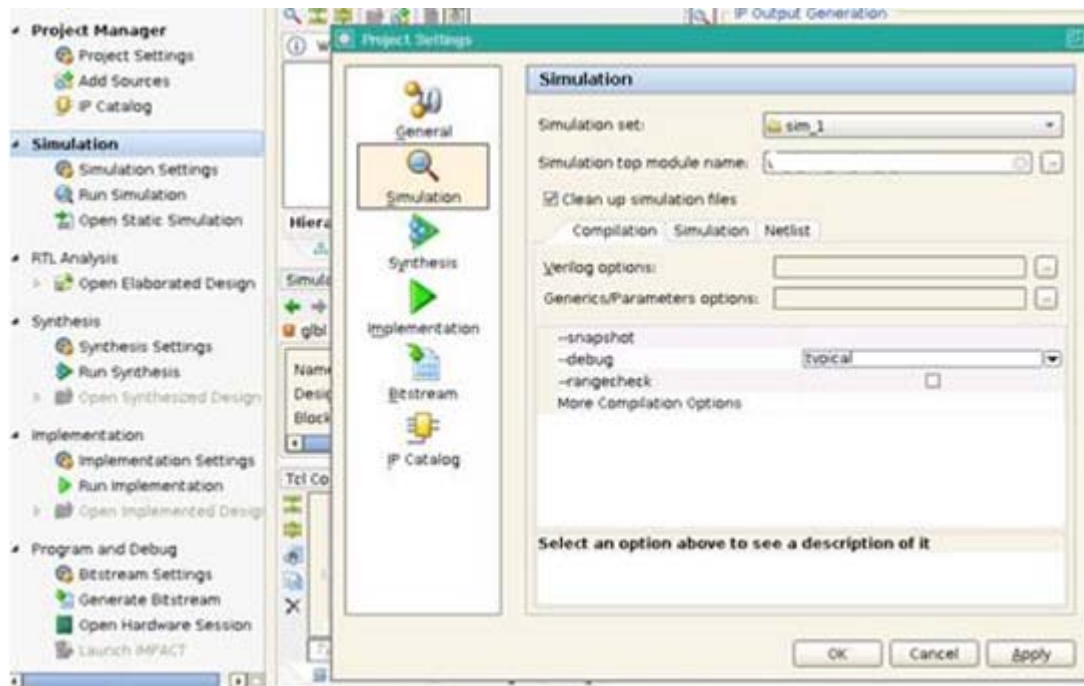

Figure 7-5: Simulation Screen
- You can also choose Modelsim for simulation by going to **Project Settings** and selecting Modelsim as the Target Simulator (Figure 7-5).